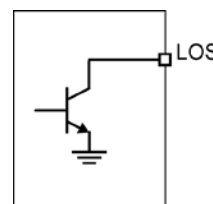

Figure 2d. LOS Output Structure
The post amplifier generates a selectable chatter-free loss-of-signal (LOS) or signal detect (SD) open-collector TTL output as shown in Figure 2d. LOS/SD is used to determine that the input amplitude is too small to be considered as a valid input. When the LOSS function is selected ($LOS/SD_SEL=1$), LOS/SD asserts high if the input amplitude falls below the threshold set by $LOSLVL$ and de-asserts low otherwise. If SD function is selected ($LOS/SD_SEL=0$), LOS/SD asserts low if the input amplitude falls below the threshold set by $LOSLVL$ and de-asserts high otherwise. LOS/SD can be fed back to the JAM input to maintain output stability under a loss of signal condition. Jam de-asserts low the true output signal without removing the input signals. Typically, 3dB LOS hysteresis is provided to prevent chattering.